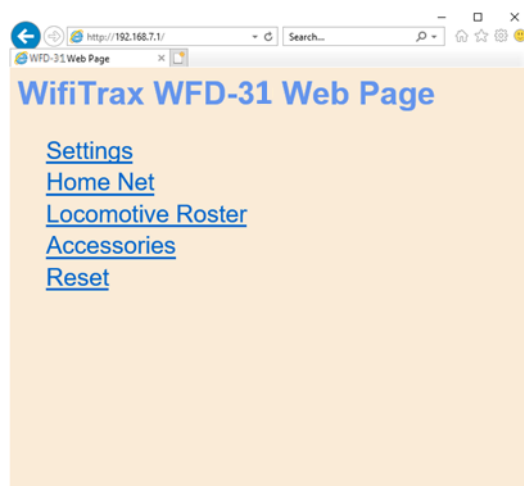

Figure 27 The WFD-31 Web Setup Main Menu
- (1) Tap the "three dots" icon at the top right of the screen and select Web in the menu. You should now see the Web Setup Main Menu as in Figure 27. You can click or tap on any of the headings in the menu to access the setup for that feature. The section "Setup Advanced Features using a Browser" provides information about all of the menu options.
- (2) You now should see the WiThrottle Address page. At the bottom there should be four tabs Throttle, Address (highlighted in blue), WebServer and Settings. Tap on the WebServer tab and you should now see the Web Setup Main Menu as in Figure 27. You can click or tap on any of the headings in the menu to access the setup for that feature. The section "Setup Advanced Features using a Browser" provides information about all of the menu options. Note that WiThrottle Lite does not have this WebServer tab so if you are using the Lite version you will have to use Safari as described in the section "Setup Advanced Features using a Browser"
- (4) You should now see the Web Setup Main Menu as in Figure 27. You can click or tap on any of the headings in the menu to access the setup for that feature.
To modify General Settings, tap the Settings heading in Figure 27.
To change to Home Net mode, tap the Home Net heading in Figure 27.